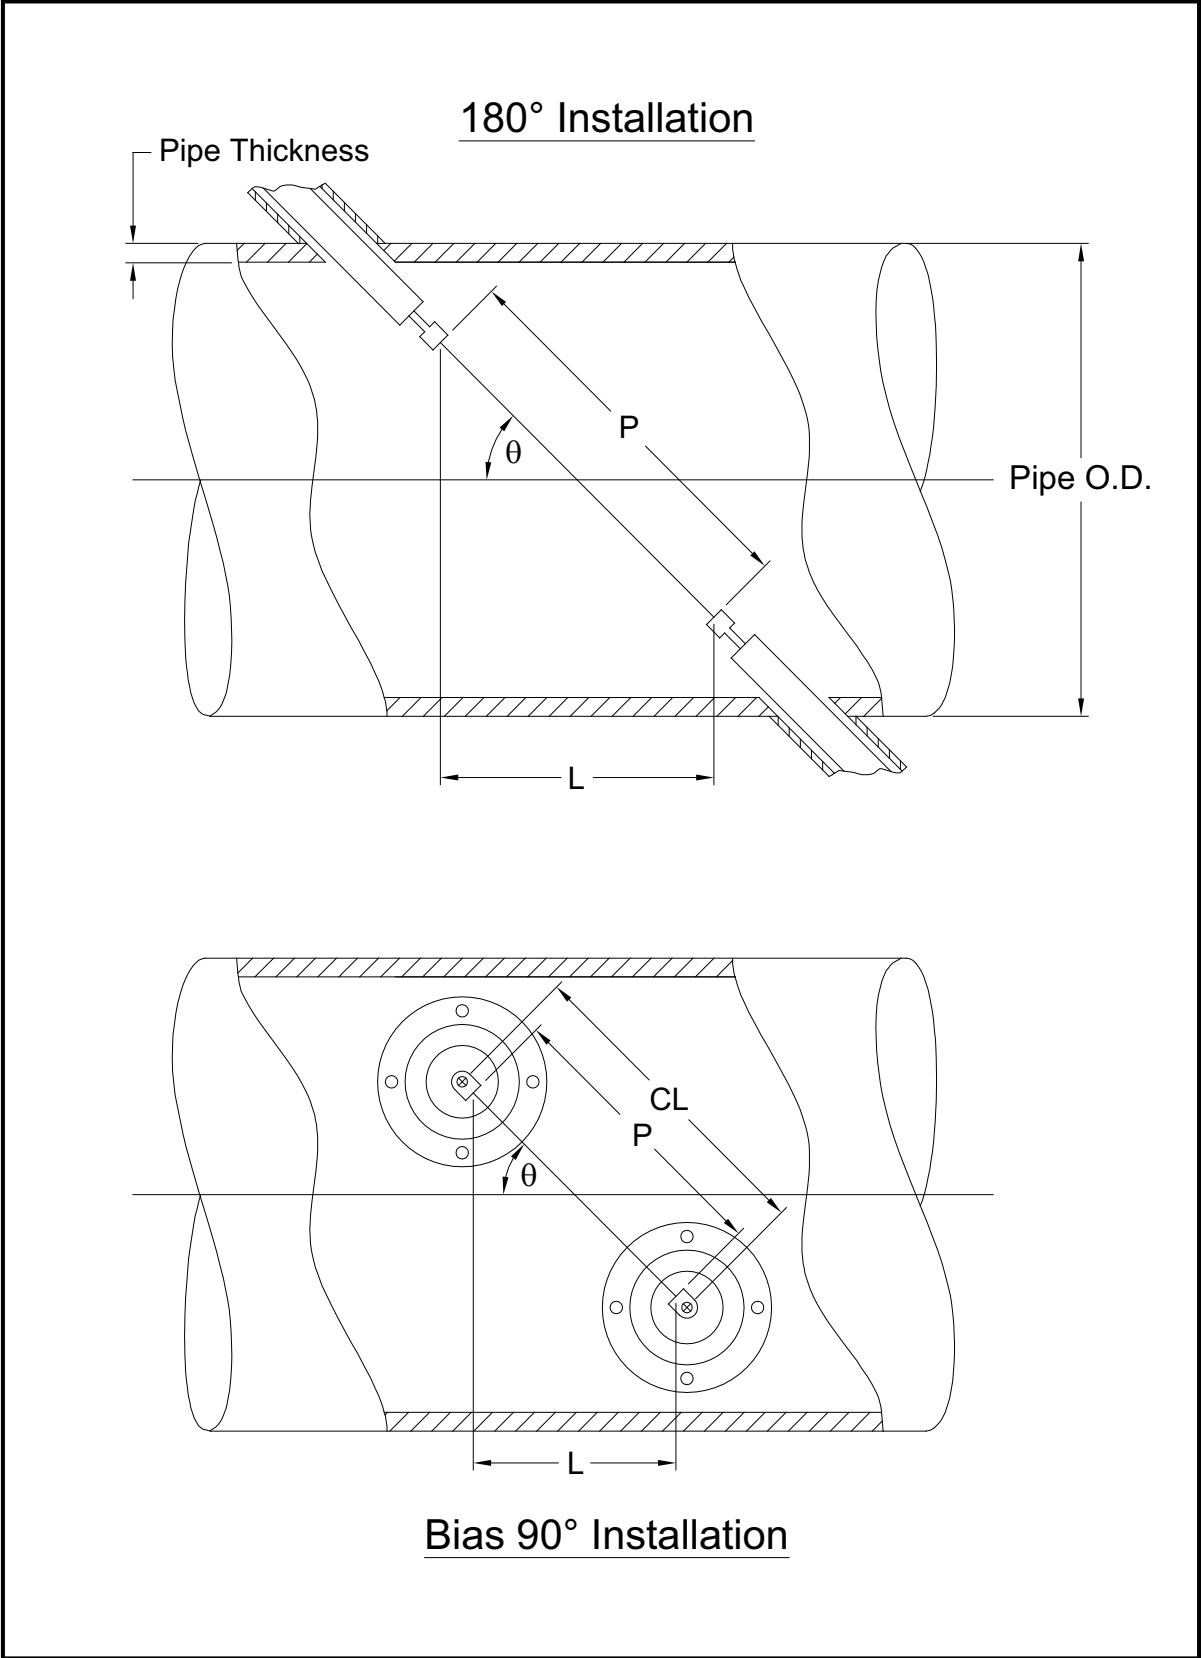

Figure 22: Top View of Typical Transducer Installations
The accuracy of the programmed P and L values is critical to precise flow rate measurements. If Panametrics supplies the flowcell for the system, the correct values will be included in the documentation supplied with the system. For transducers installed on an existing pipe (see *Figure 22 on page 66*), P and L must be measured at the site. This appendix provides instructions for properly determining these dimensions.
Whenever possible, physically measure the face-to-face distance (P) and the axial distance (L) between the centers of the flat faces of the transducers. Refer to *Figure 22 on page 66* for an illustration of the proper distances to measure, in a typical installation.
With a Bias 90° transducer installation, it sometimes happens that the only known parameters are the transducer angle (θ) and the centerline distance between the transducer bodies (CL). In these cases, it is still possible to calculate P and L by combining Equation C-1 above with the additional Equation C-2 below (see *Figure 22 on page 66*):